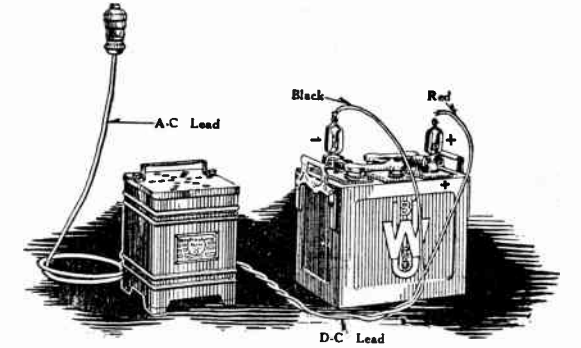

FIG. 1—METHOD OF CONNECTING RECTIGON FOR CHARGING AUTOMOBILE OF RADIO "A" BATTERIES
**FIRST** Connect the D-C. leads to the battery as shown in figure 1. Make sure that the positive selector lead is attached to the stud corresponding to the number of cells to be charged.